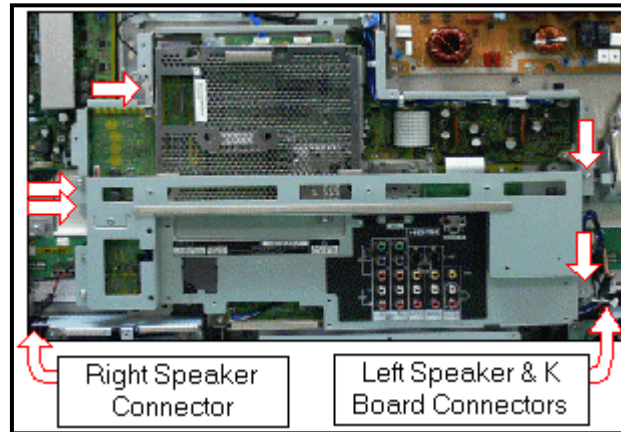

Figure 10. Metal Frame
4. Remove the five screws that hold the metal frame as indicated in figure 10.